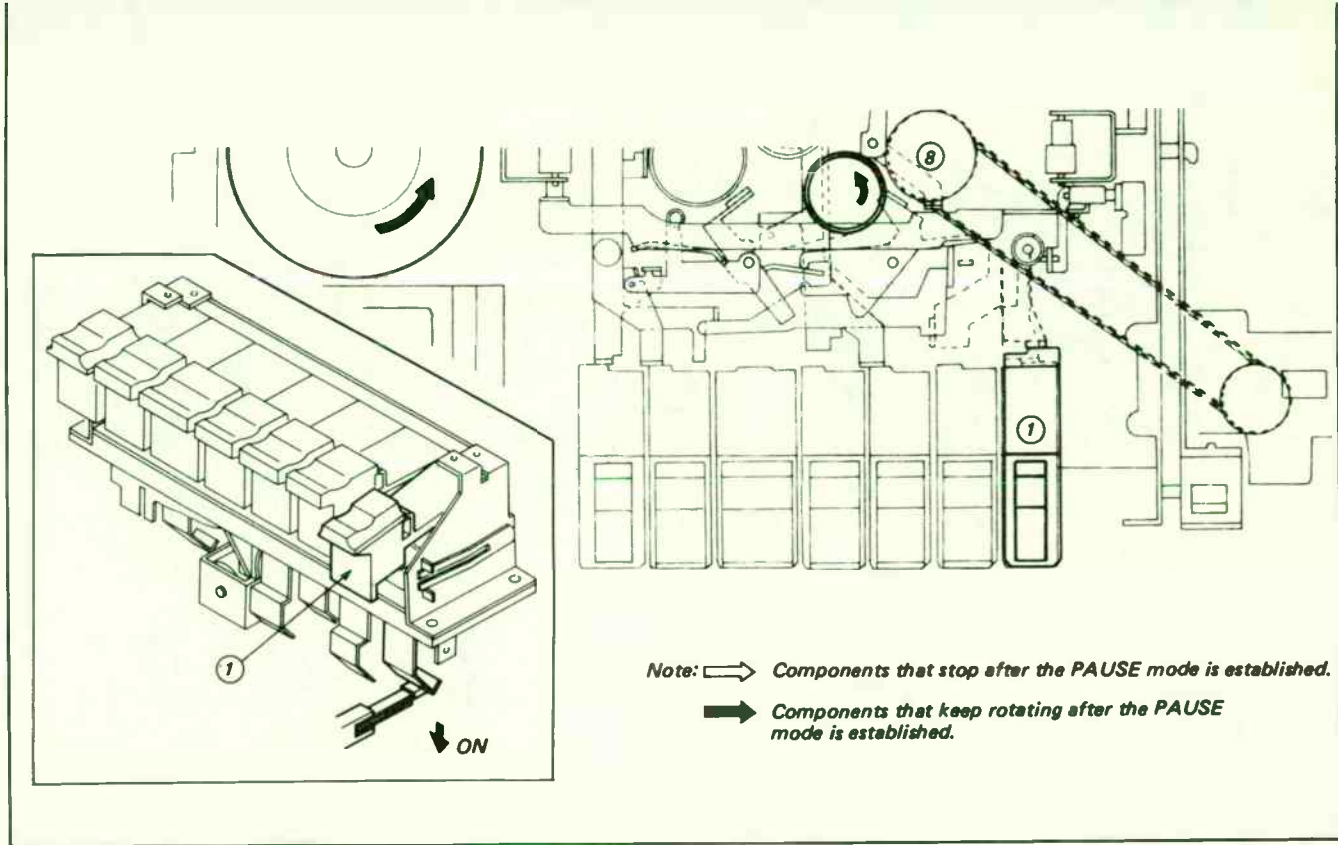

Fig. 5-14. Mechanical parts placement in the pause mode.
Figure 5-14 illustrates the operation of the mechanical parts when the pause mode is set-up with the machine in the play mode. When the pause button is depressed in the play or the record mode, the pause solenoid turns off and the pressure arm assembly (3) moves in the direction indicated by the arrow, making the pinch roller assembly (4) disengage the capstan flywheel assembly. At the same time, the pause brake rubber (6) presses the tape on the pinch roller assembly (4) and the tape movement stops. Note: the play assembly (7) contacts the take-up reel table assembly (8) in this